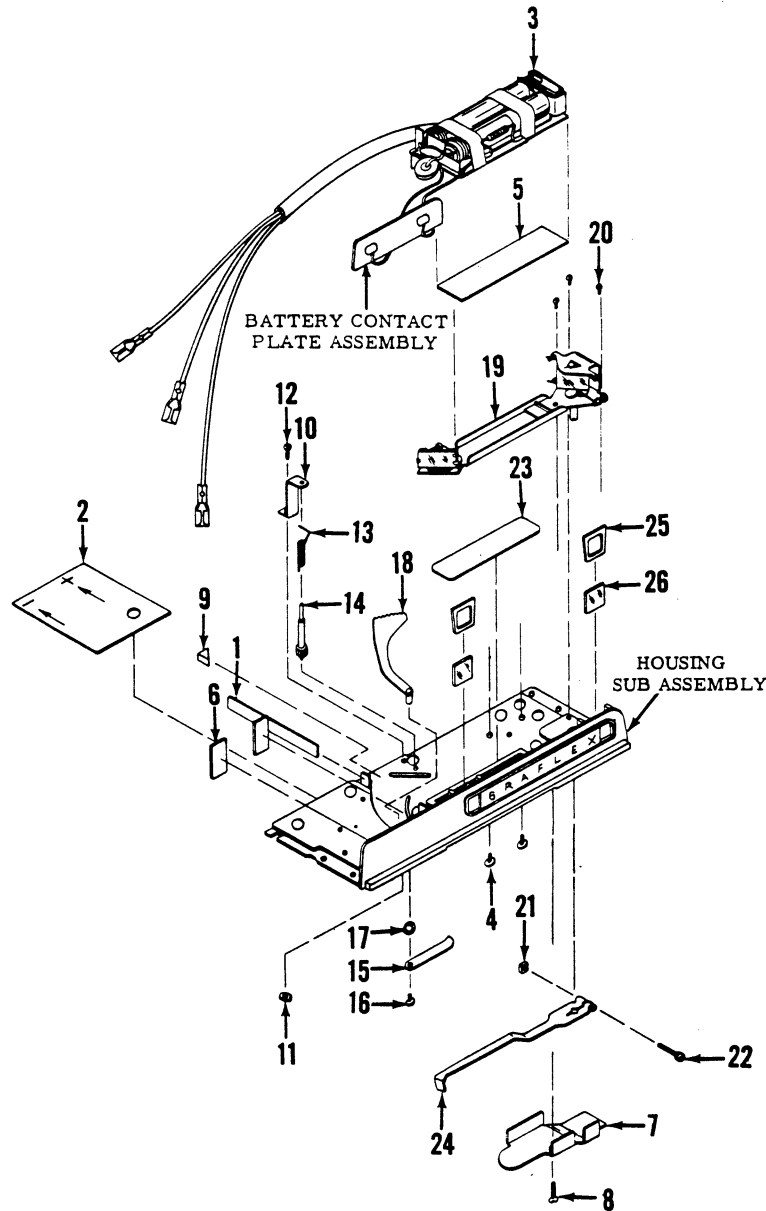

Figure 10. RANGEFINDER HOUSING COMPLETE
V. RANGEFINDER HOUSING COMPLETE - DIS- ASSEMBLY AND REASSEMBLY (Figure 10)
- a. Remove cemented battery partition (1) and guard (2).